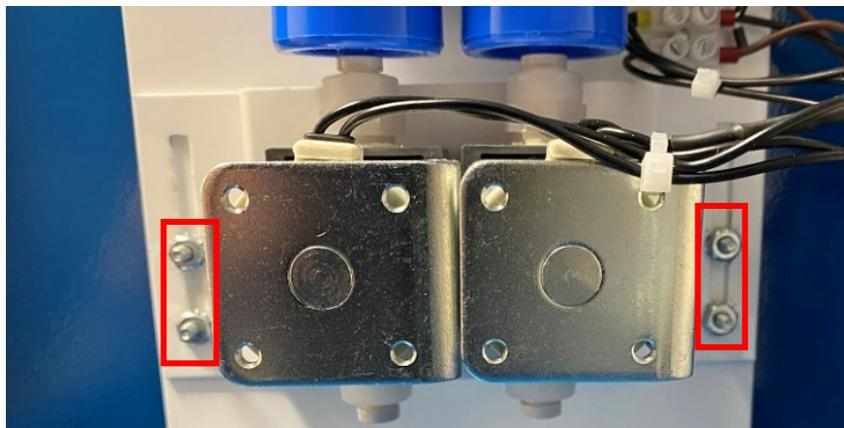

Figure 5.4: Drain Valve Bracket Locknuts
2. Loosen locknuts (2 on each side) until they spin freely (removal is not necessary). See figure 5.4.